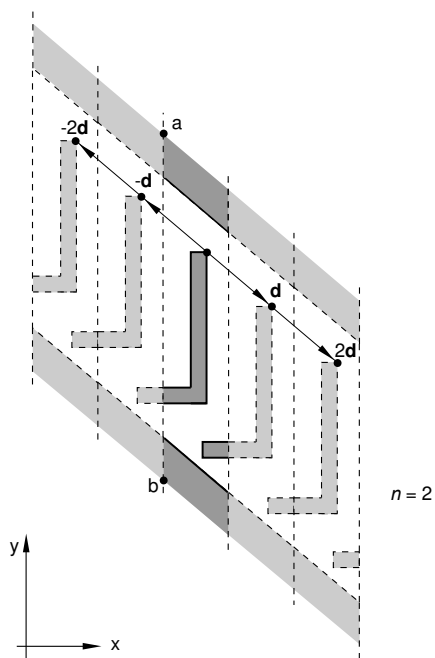

Figure 1: *PERIODIC, TYPE=2D option.
Set TYPE=2D to create a cavity composed of the cavity surface defined in the model and a series of similar images generated by its repetition according to a two-dimensional distance vector. The repeated images are bounded by lines parallel to line *ab* (see *Figure 1*). The distance vector must be defined so that it points away from line *ab* and into the domain of the model. This option can be used only for two-dimensional cases.
1. *x*-coordinate of point *a* (see *Figure 1*).